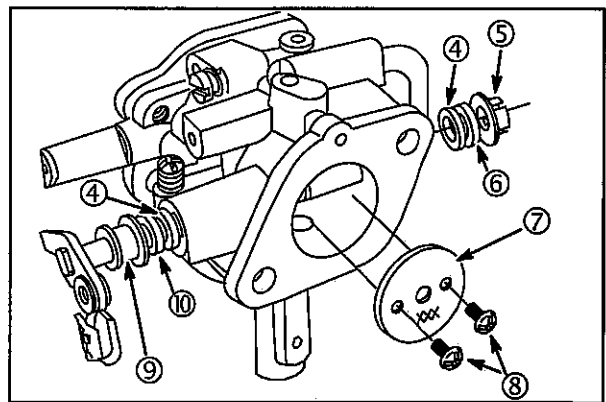

Fig. 52
3. Install new throttle shaft seals (4) with sealing lip out, **Fig. 52**.
4. Install throttle shaft with foam seal (10) and spacer (9).
5. Install foam seal (6) and retainer (5).
6. Install throttle plate (7) with numbers down.